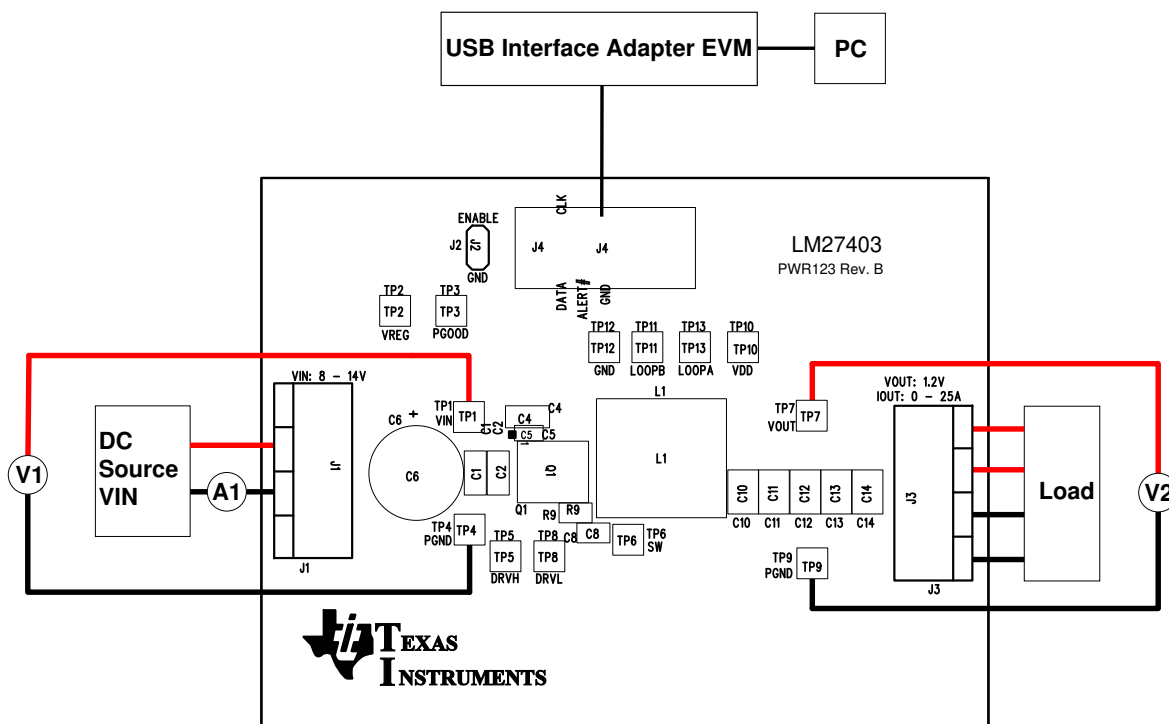

Figure 4-3. TPS53819AEVM-123 Recommended Test Setup
Figure 4-3 is the recommended test set up to evaluate the TPS53819AEVM-123. Working at an ESD workstation, make sure that any wrist straps, bootstraps or mats are connected referencing the user to earth ground before power is applied to the EVM.
1. Prior to connecting the DC input source V_{IN} , it is advisable to limit the source current from V_{IN} to 10-A maximum. Make sure V_{IN} is initially set to 0 V and connected to J1 as shown in Figure 4-3.
2. Apply the input voltage to the EVM. Refer to Figure 4-3 for connections and test setup.
1. Set up the EVM as described in Section 4 and Figure 4-3.
2. Set up EVM as described in Section 4 and Figure 4-3.